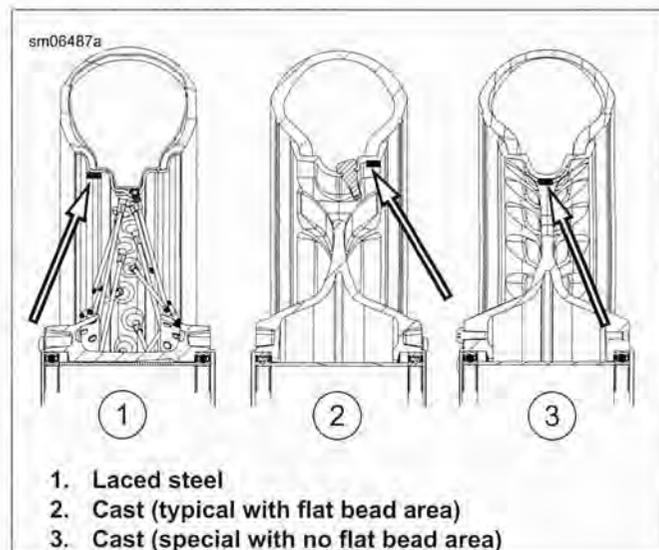

Figure 2-134. Wheel Weight Placement
Use self-adhesive wheel balance weights for all Harley-Davidson wheels, placed as indicated in Figure 2-134 depending on wheel style.
- See Figure 2-134. On cast wheels without a flat area near the bead, it is acceptable to place them crosswise through the opening.
1. See Figure 2-134. Place weights on a smooth surface of the wheel rim such that centrifugal force will help keep them in place. Make sure the area of application is completely clean, dry, and free of oil and grease.